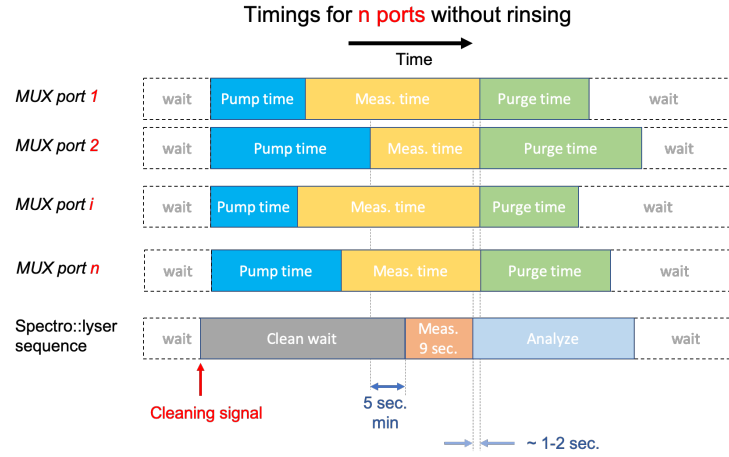

Figure 3.3: The MUX in relationship with the sampling points, rinsing solutions, the instrument and its flow-through cuvette, and a sample loop
1. In reality, the *pump time* may vary from sampling point to the next as it is preferable to pump the least amount of time per port to save energy and pump tubing. The *pump time* for each port is defined in the *config.txt* file. However, the *clean wait* time corresponds to a parameter from the Spectro::lyser, and the same value applies to all sampling points. As a result, the *clean wait* time **must correspond to the longest *pump time* + 5 seconds** (Figure 3.3).
should also be the same and be equal to (on the Spectro::lyser side) **the *clean wait* time + the 9 sec. of measurement time + at least 2 seconds past the last measurement** (Figure 3.3).
As a result, the *measurement time* from the MUX must be adjusted (in the *config.txt* file) accordingly as illustrated in Figure 3.3